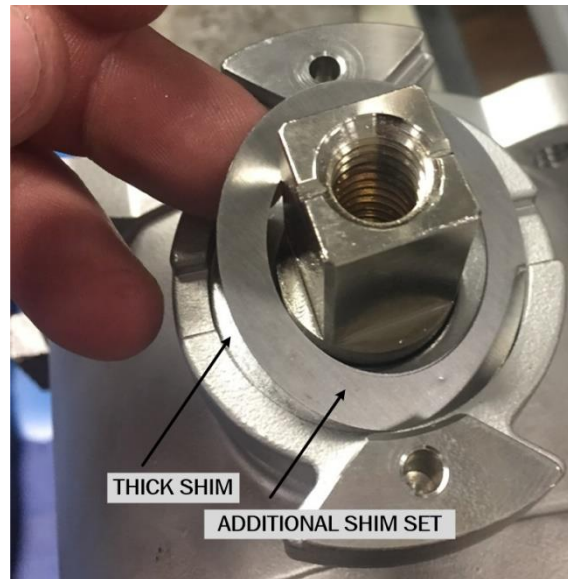

Figure 4.
- 4) Place typical additional shims on top of thick shim. See Figure 4.